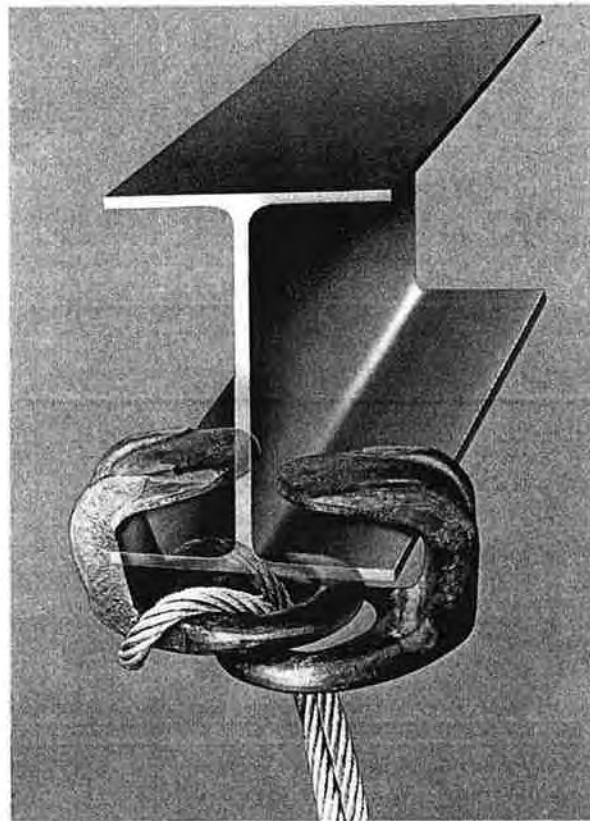

Figure 49
**Rigging Hook SA-1001 and SA-1073 (Fig. 49)**